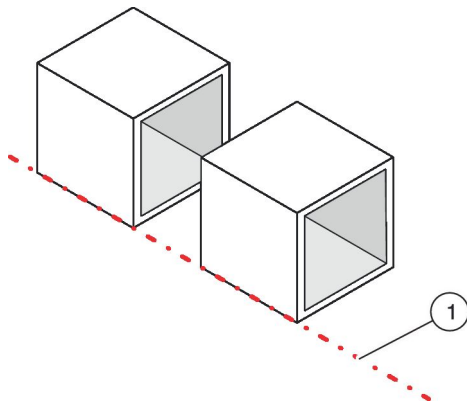

Fig. 12: Aligning AHU casing units
3. ▶ Align the AHU casing units so that they are flush with one another (Fig. 12 /1).